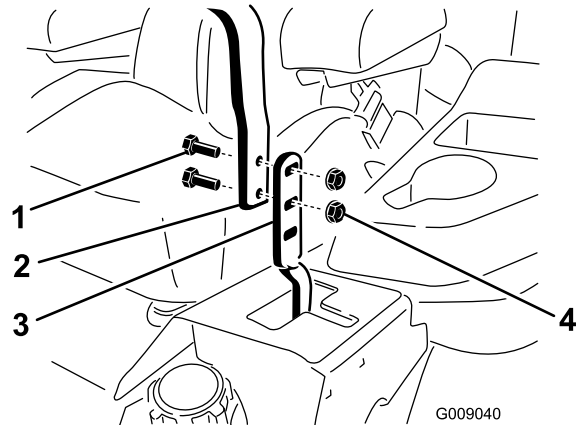

Figure 84
3. Loosen the bolts and flange nuts installed in the levers (Figure 84).
4. Align the levers in the front-to-rear position by bringing the levers together to the NEUTRAL position, slide them until they are aligned, and tighten the bolts (Figure 84).